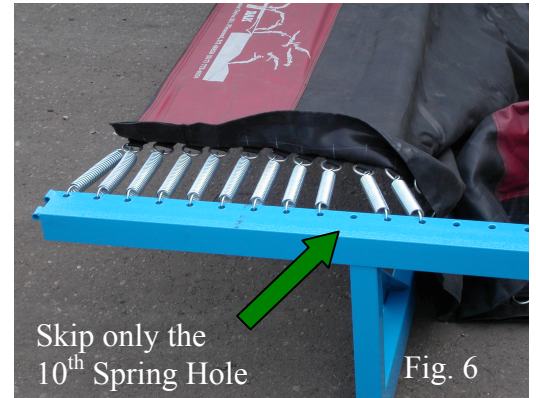

Fig. 6
- The third spring will attach to the second D-ring and hook to the third frame hole (See Fig. 6-next page). **ALWAYS ATTACH HOOKS DOWNWARDS!!!**
- As you continue springing the bed, skip the **tenth** frame hole to angle the springs, pulling the bed tight and smooth (See Fig. 6 & 7-next page). **DO NOT** skip every 10 holes (20th, 30th, 40th, etc) - **only the 10th hole**. As you continue springing the bed, if you notice that the springs are no longer angled or that wrinkles are starting to form on the bed, then skip another set of frame holes. When the bed is attached properly, it should be smooth and tight. **WARNING:** Tumbl Trak™ cannot be held responsible for beds that are not strung up according to these instructions.